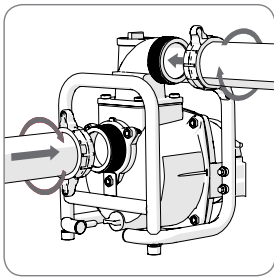

Fig 3
- Connect the hoses to the pump body using the hose clamps and gaskets supplied. **(Fig. 3)** Check that the gaskets are correctly seated.